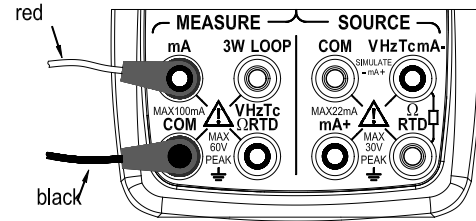

Figure 12 Measuring DC current
**For DC current signal (Figure 12)**